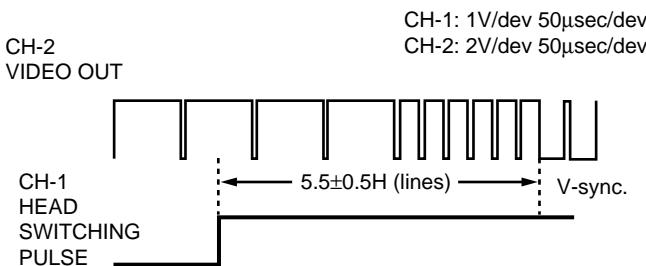

Figure 5-2.
4. Adjust R724 so that the leading edge of the head switching pulse is  $5.5H$  (lines) ahead of the vertical sync as shown in Figure 5-2.